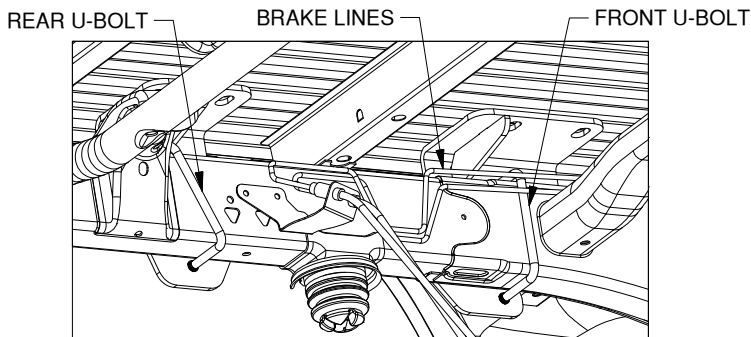

Figure C7: View looking at driver side frame.
4. **Attach the U-bolts.** Each side plate will utilize two U-bolts for attachment to the frame. The driver side front U-bolt will need to be passed under the brake lines on the inside of the frame, see Figure C7. Push U-bolts through holes in side plate. Install lock washers and finish nuts on U-bolts. Hand tighten hardware only at this time.